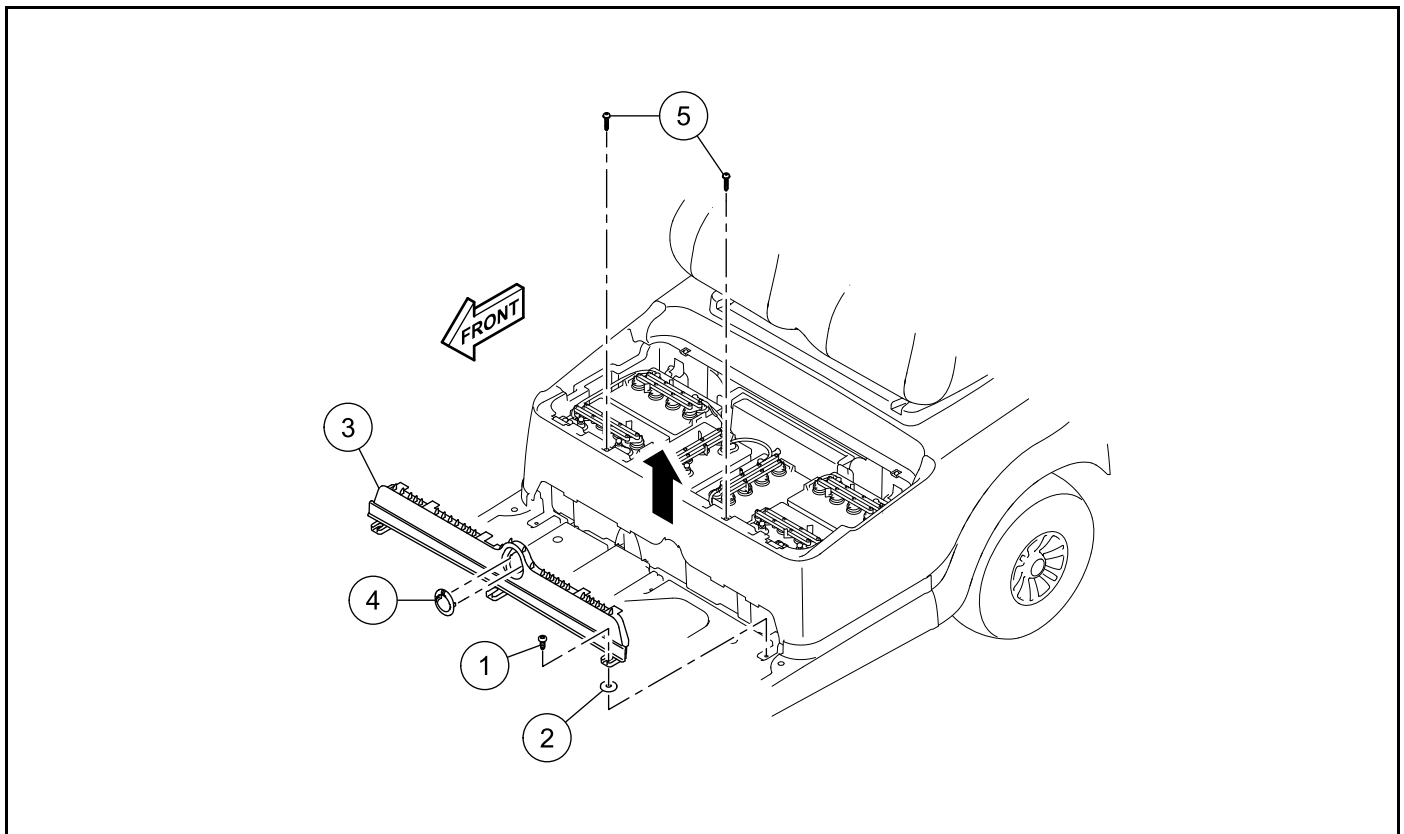

Figure 4-10 Kick Plate and Charger Receptacle Bezel Removal
1. Use the charger bezel tool to remove charger receptacle bezel (1) from the kick plate (2) (**Figure 4-10, Page 4-15**).
3. Remove three screws (3) and washers (4).
4. Remove the two front screws (5).